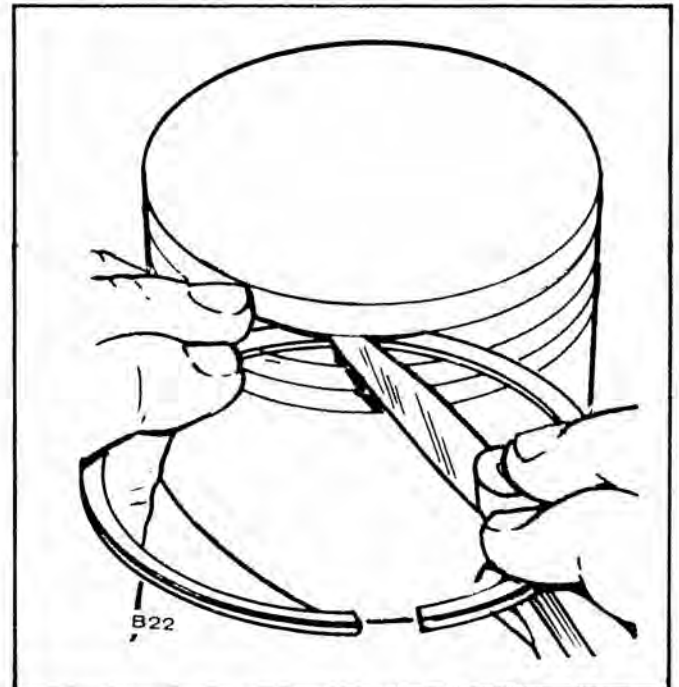

FIGURE 32. CHECKING RING SIDE CLEARANCE
- a. Inspect the pistons for fractures at the ring lands, skirts and pin bosses. Check for wear at the ring lands using a new ring and feeler gauge as shown in Figure 32. Replace the piston when the side clearance of the top compression ring reaches 0.008".